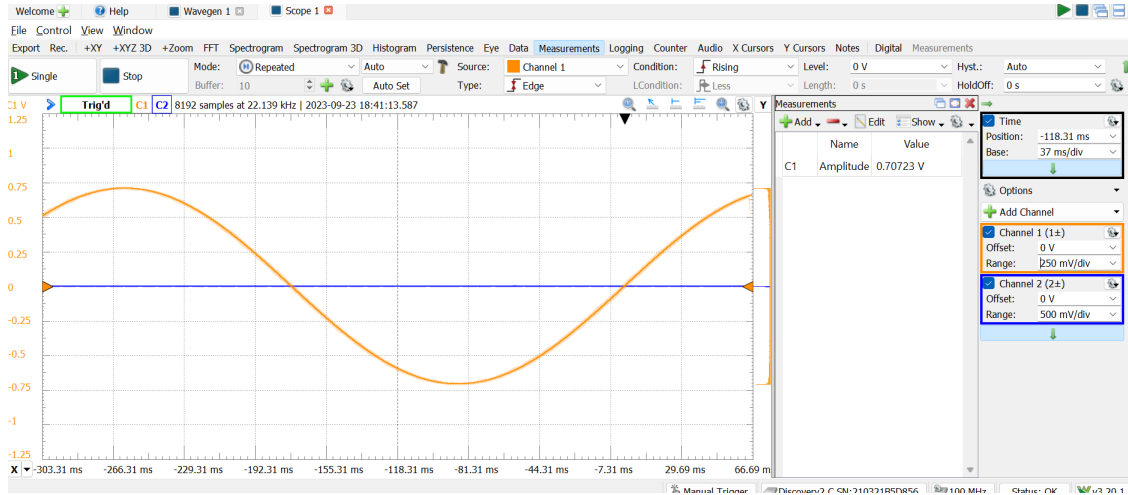

Figure 10: Resulting voltage across capacitor at 3dB cutoff
- At 2.88 Hz, we get an output voltage of ~0.707 V (visible in Figure 10), which is what we want